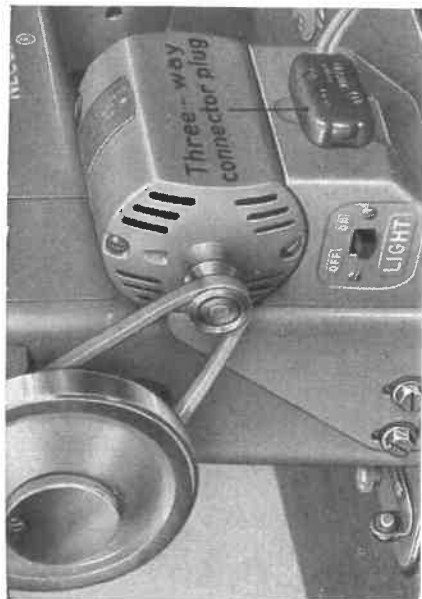

Fig. 21
- 1) Insert the three-way connector plug *fully* into the corresponding opening of the transformer (see Fig. 21) and push the male plug at the end of the extension cord into the wall outlet.
- 2) Move the "LIGHT" switch on the transformer (Fig. 21) to the "ON" position and leave it in this position while the machine is in use.